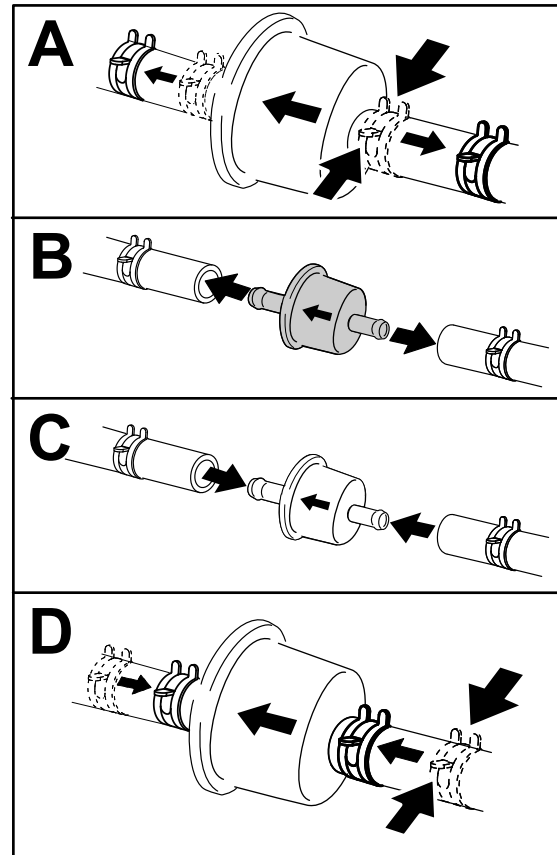

Figure 43
3. Replace the filter (Figure 43).